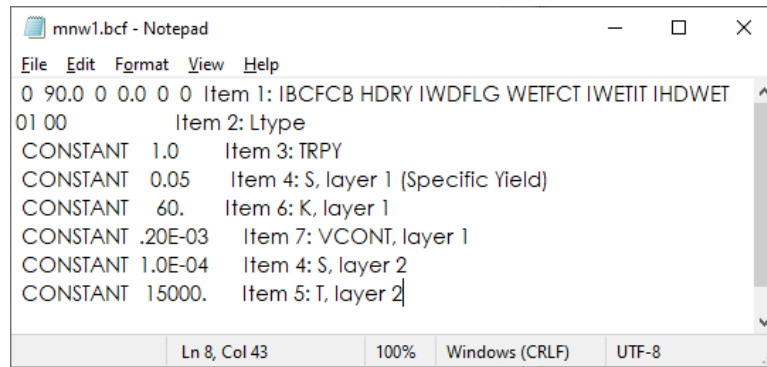

Figure 6 MODFLOW BCF file
5. Open “mnw1.bcf” in a text editor (Figure 6).